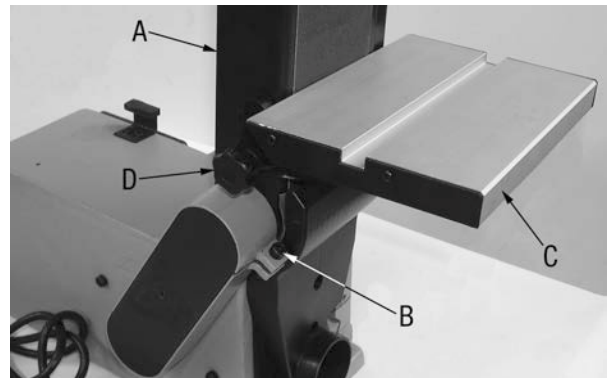

Figure 7
**NOTE:** The sanding belt assembly (A) Fig.7 can be raised to vertical position by loosening cap screw (B) and raising the assembly.
3. Install the table assembly (C) Fig.7 to auxiliary holes on the side of the belt housing. Install and tighten lock knob and washer (D).